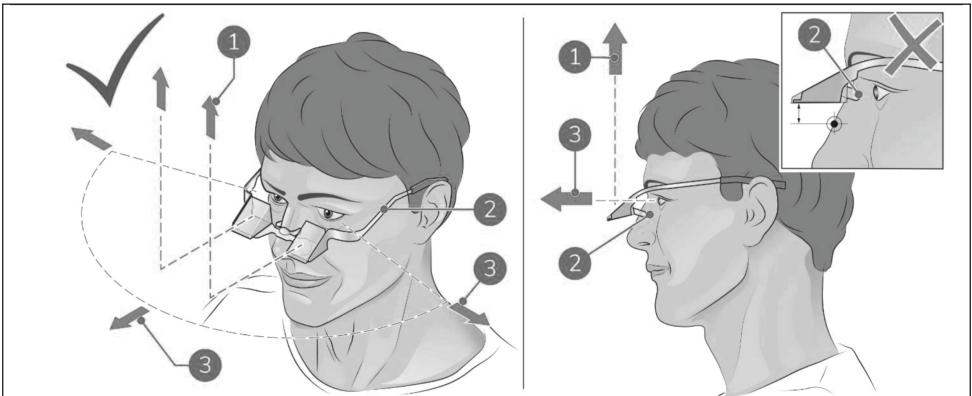

Figure 13
1. Stand still and look straight ahead to obtain the best upward vision (Figure 13, pos. 3, 1).
2. Do not position the i-glasses too high on the bridge of your nose. With the correct position (Figure 13, pos. 2) you are able to look fully into or out of the prisms. This enables you to switch trouble free between upward and normal panoramic vision.